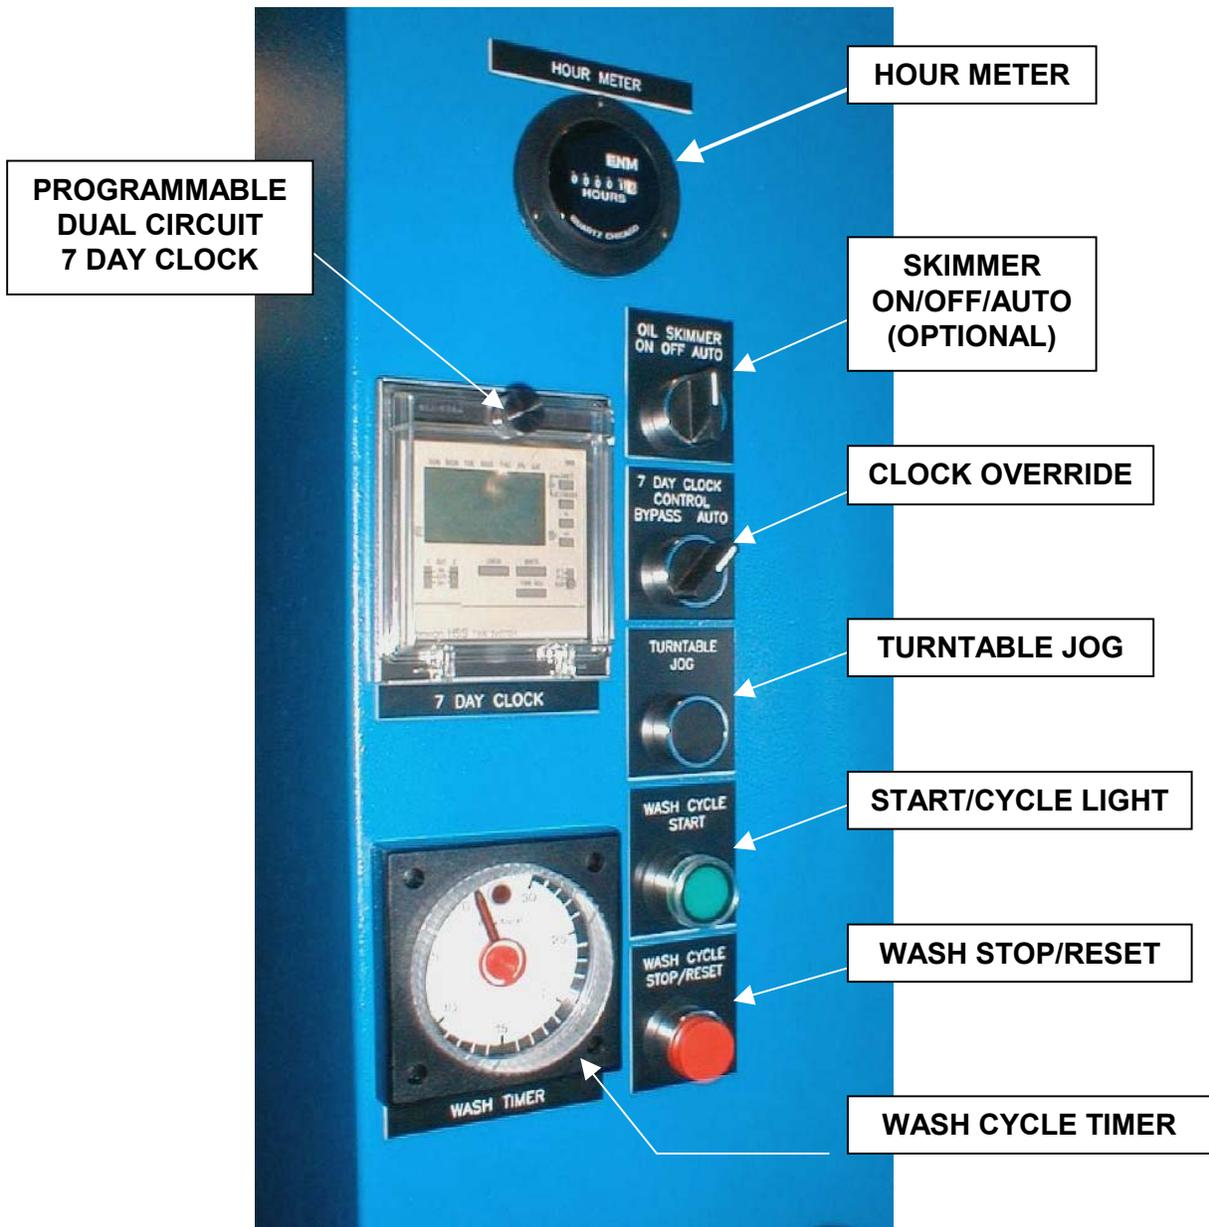

FIG. 3-1: Standard Turntable Power Washer Control Panel
Use the clock-override switch to bypass the 7-day clock and heat the washer. Refer to Fig. 3-1. Generally, you would use this switch under the following conditions:
Rotate the 0-30 minute wash-cycle timer knob *counterclockwise* to desired time to set wash-cycle time. Refer to Fig. 3-1. During a wash cycle, the black pointer on the timer will remain at set point. The red cycle-progress pointer will move to indicate time remaining. At the end of a wash cycle, the red pointer will reset to the time indicated by the black pointer. This feature allows you to repeat the same cycle time by just pressing *start*.
If you have the optional Automatic Rinse Cycle (ARC), setting the *rinse off/auto switch* to the *auto* position will *enable* the rinse cycle. Setting the switch to *off* will *bypass* the cycle; no rinse will occur. Refer to Fig. 3-1.
Press the *start* button to begin the wash cycle. Refer to Fig. 3-1. The button will remain illuminated during the cycle.
1. Press the *STOP* button. Wait at least 10 seconds for the pumps to stop running. (Refer to Fig. 3-1.)